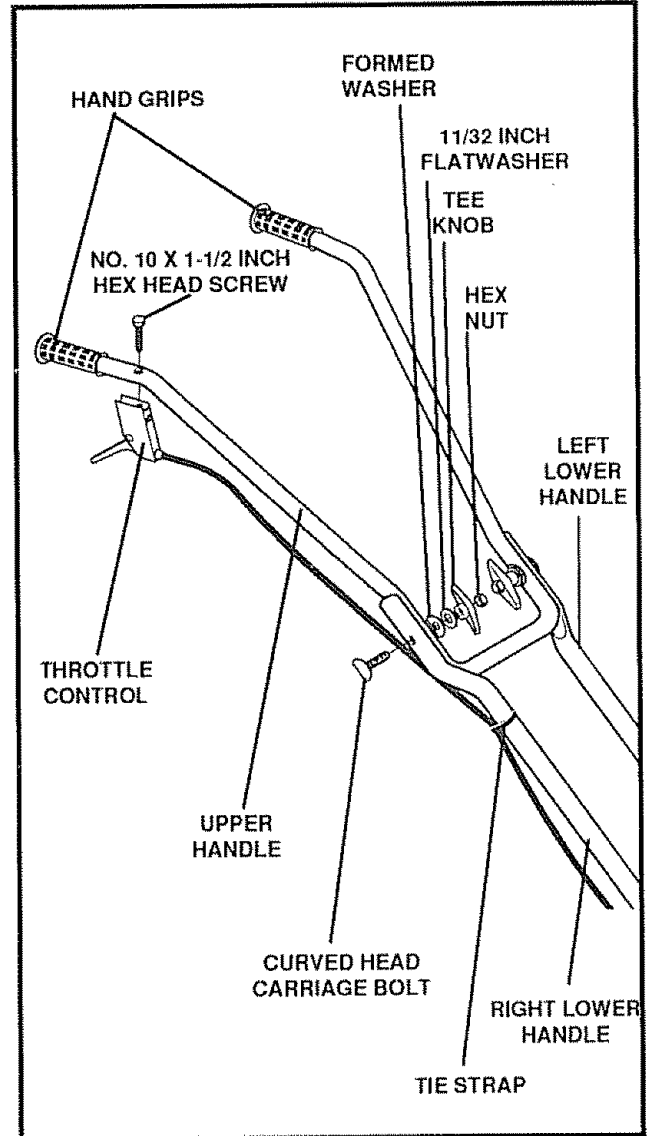

FIG. 5
- Place the upper handle between the lower handles (see Fig. 5) and secure with two curved head carriage bolts, two formed washers, two 11/32 inch flatwashers and two tee knobs on the inside of the handle. **You must insert a hex nut into each tee knob.** Finger tighten only. Pull back on the tee knob to engage the hex opening with the hex nut. Tighten the tee knob. The nut will be pulled into the cavity and locked. The lower handles have two holes at the top end to allow the upper handle to be positioned at two different heights.
- Hold the curved head carriage bolt against the outside of the lower handle while tightening the tee knobs securely (see Fig 5)
- Place a No. 10 x 1-1/2 inch hex head screw down through the hole in the upper handle right side and attach the throttle control to the underside of the handle (see Fig 5).
- Install the hand grips onto the upper handles (see Fig. 5). It may be necessary to lubricate the handles with soap and water to aid assembly.